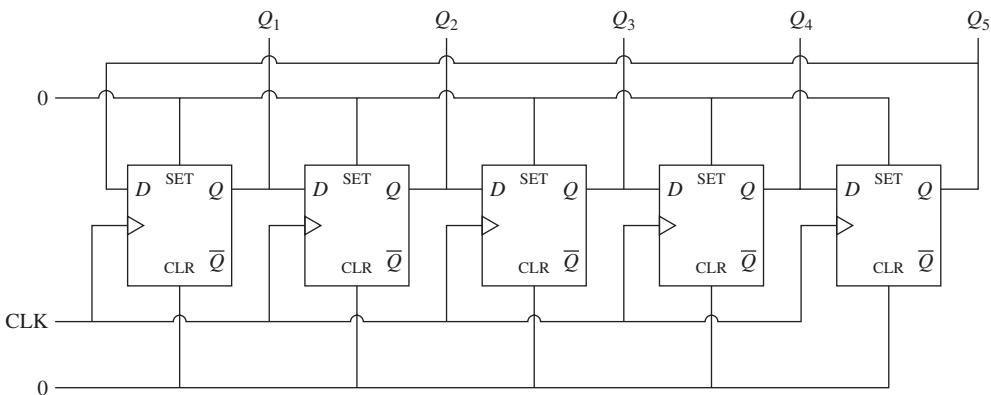

FIGURE P10.66 A 5-bit shift register.
- 10.66** (A) A 5-bit shift register constructed with D flip-flops is shown in Figure P10.66. At the first CLK rising edge, the output is as follows: $Q_1 = 0$, $Q_2 = 1$, $Q_3 = 1$, $Q_4 = 0$, $Q_5 = 0$. Provide the output at the second, third, fourth, and fifth CLK rising edges.